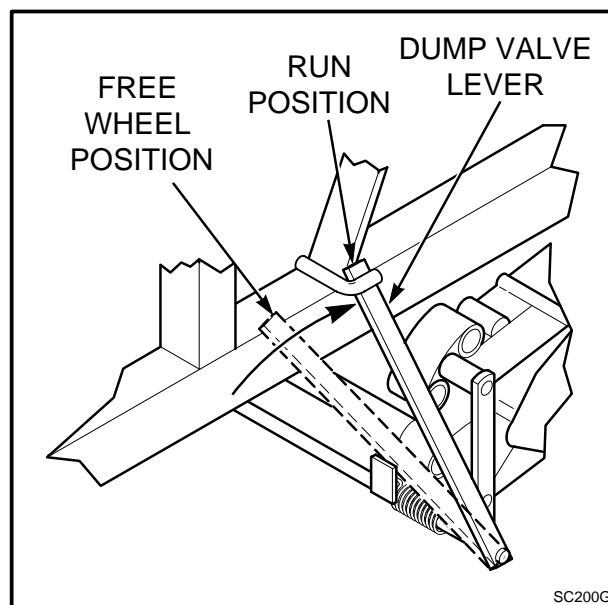

Figure 1
2. **Run Position:** Move the dump valve lever (on the Left Hand side of mower) behind the hook on the frame to close the hydraulic dump valves on the pump. (See Figure 1)
Free Wheel Position: Pull lever back and to the left, then push forward to relieve pressure. (See Figure 1)
11. Operate the machine forward and backward. Check that all the systems function correctly. If the machine does not move, make sure the hydraulic dump valve lever near the left wheel is engaged. (See Figure 1 page3)
To release the drive wheels, so the machine will roll without the engine running, pull the dump valve lever back from the hook on the frame, move it to the left, and push it forward to relieve the pump pressure. The lever is on the LH side of the machine. (See Figure 1 on page 3)